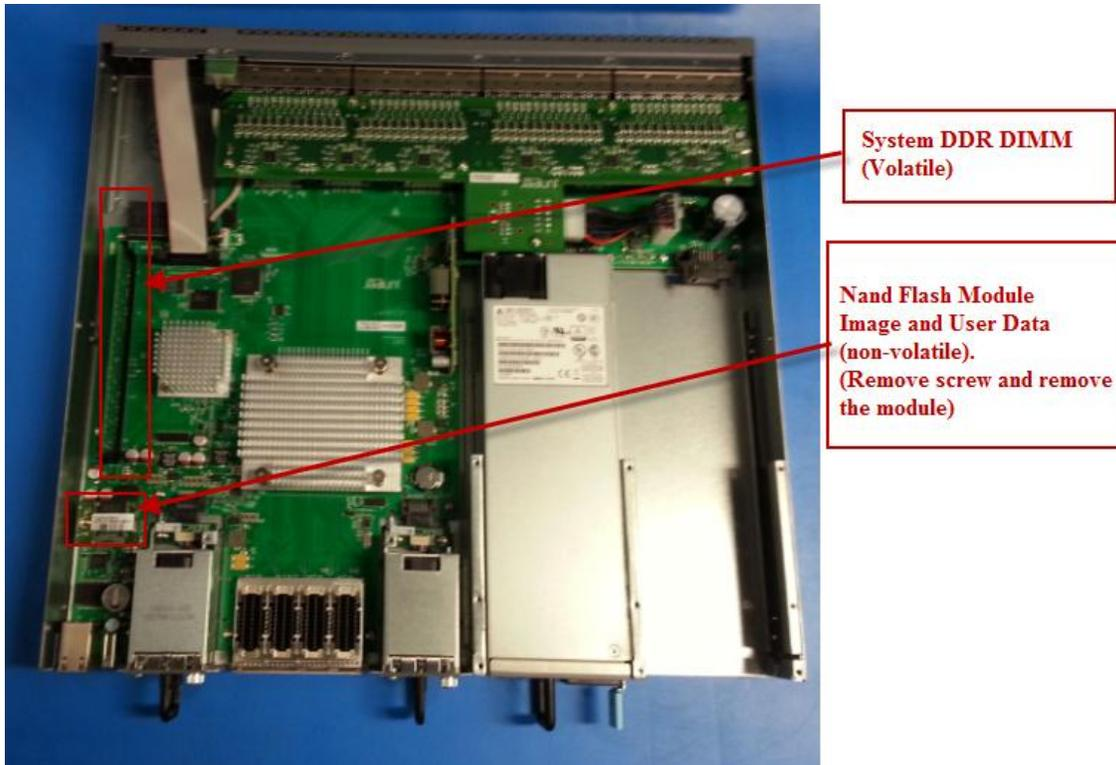

Figure 3-5: Open Chassis
5. Remove the top of the chassis and note the location of DDR DIMM and the Nand Flash Module (figure 3-5)
Identify the DDR DIMM as shown in figure 3-5 above and remove it. Identify the NAND Flash module as shown in figure 3-5 above and use a screw driver to remove the screw holding Nand Flash Module. Then remove the Nand Flash Module.